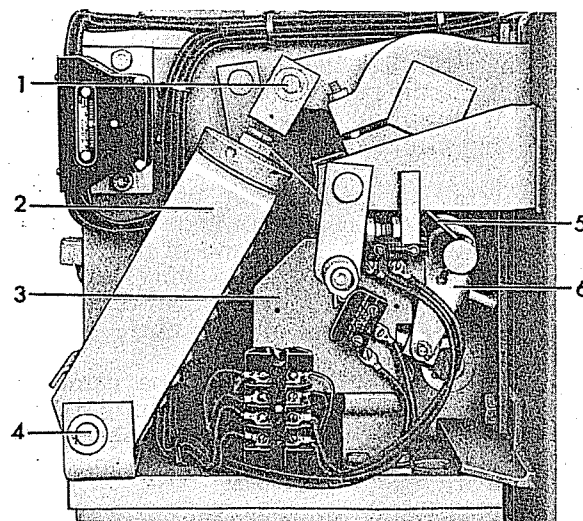

Figure 26 (8020728) Opening Spring Assembly
3. Remove latch check switch bar (5) Figure 26, the trip coil plunger bracket (6), and manual trip bar (1) Figure 3.
1. Open the breaker and remove the opening spring unit (2) Figure 26, by removing the pivot pins (1 and 4).